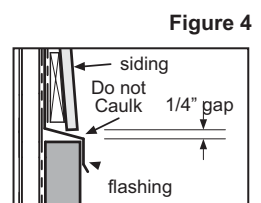

Figure 4
- Maintain a 1/4" clearance between the bottom of James Hardie products and horizontal flashing (fig. 4).